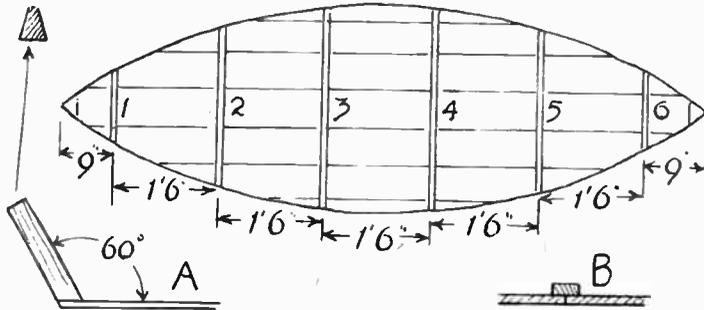

Fig. 1—A plan view of the floor and section of parts
Lute the edges of the boards close up tightly and keep together with a narrow batten at each end. Run a pencil line down the centre, and on this draw pencil lines across, as in plan view, Fig. 1, to guide the laying of the frame. At each end a stem post will be erected, as at (A). These are 1ft. 6in. lengths of 3in. square wood, planed to a triangular section, with a flat on the narrow end of $\frac{1}{2}$ in.
Now remove the bottom battens and saw the bottom of the canoe to the shape as in Fig. 1. The battens can then be permanently fixed in place, but should cover the edges of the canoe bottom as well. Owing to the rise at each end it will be found that these